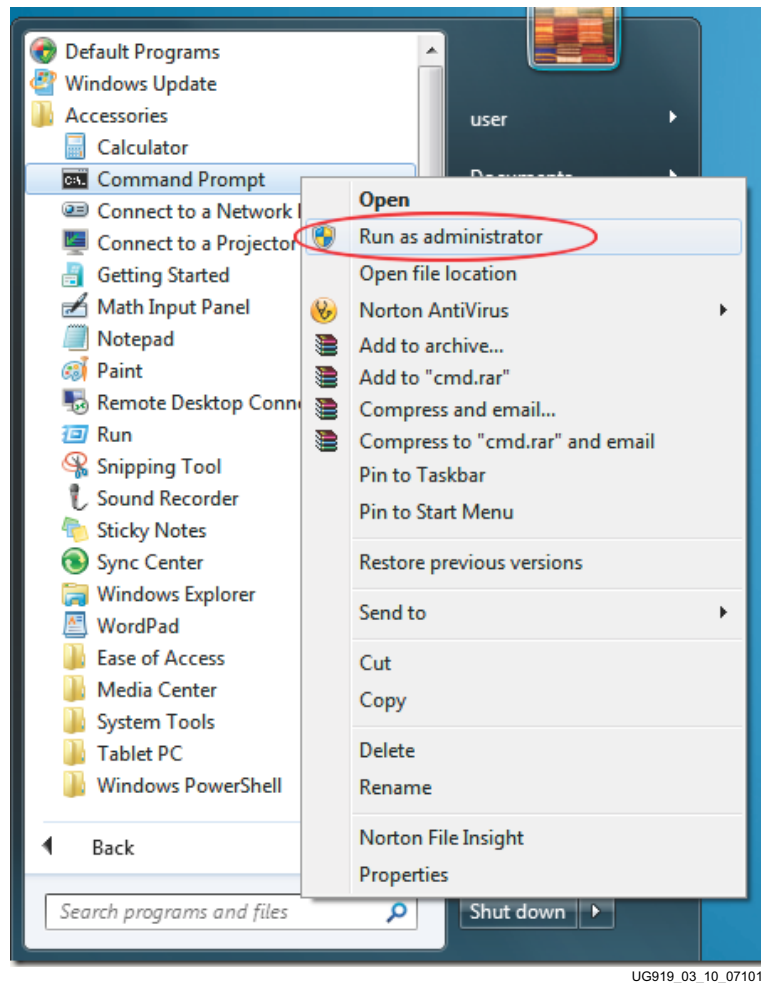

Figure 3-10: Command Prompt with Administrator Privileges
3. Open the command prompt with administrator privileges, as shown in Figure 3-10.